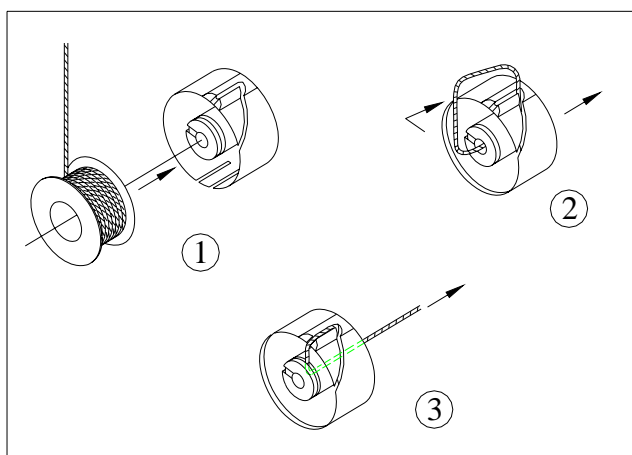

Fig.6
(1) The lower thread in the inner shuttle peg is threaded according to the order ①-③ illustrated in Fig.6.